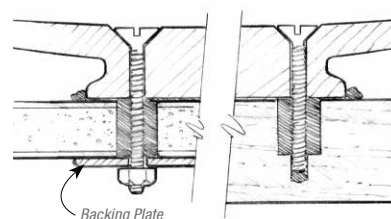

Figure 18 Tighten fasteners until a small amount of epoxy squeezes from the joint.
5. Place the hardware in position. Insert and tighten fasteners until a small amount of the mixture squeezes out of the joint (Figure 18).